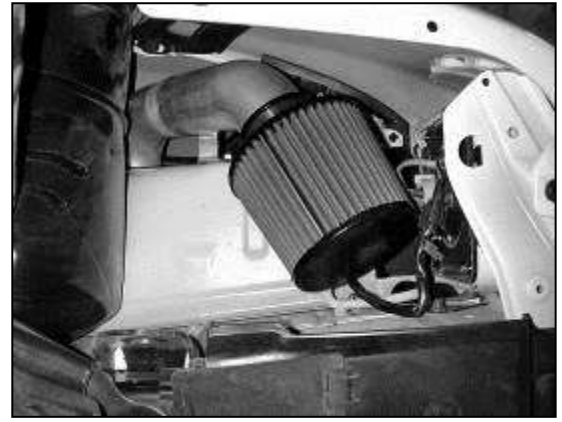

Fig. 12
- j. Install the AEM® air filter using a #52 hose clamp. **(Fig. 12)**